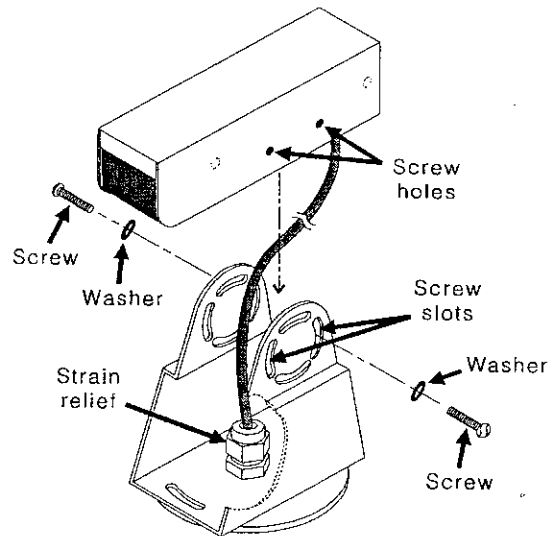

**Figure E-3. Installing gasket and bracket**
- Drill a  $\frac{3}{16}$  inch (4.76 mm) hole through the selected mounting surface and center the enclosed rubber gasket over the hole, with the two screw holes in the gasket to the front and rear of the position the microphone will face as shown in Figure E-3. Mark the mounting surface through the two screw holes.
- Center the rubber gasket over the three holes and place the microphone mounting bracket over the gasket. Place one of the enclosed lock washers and self-tapping screws through the screw slot at the front of the bracket and the screw hole in the gasket below it as shown in Figure E-3. Using a high-speed drill, drill the screw through the mounting surface to secure the bracket in place. Do not over tighten the screw, or the metal bracket could be damaged. Secure the rear of the bracket in place with the remaining washer and screw in the same manner.